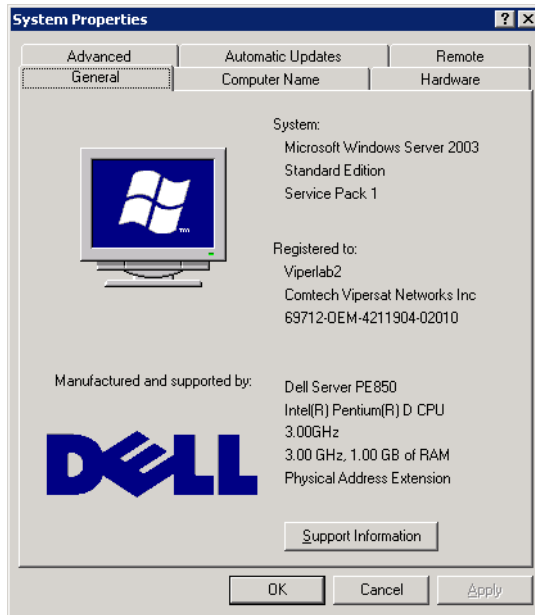

Figure 2-2 System Properties menu
1. From the server's **Start** menu, go to the **System Properties** menu located at **Start > Control Panel > System**, as shown in figure 2-2.